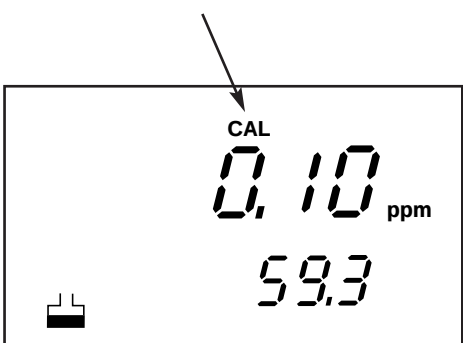

Figure 32
4. Press **CAL** to enter the ion calibration mode. The **CAL** indicator appears above the primary display and primary display reads "**0.10**" —See Figure 32.